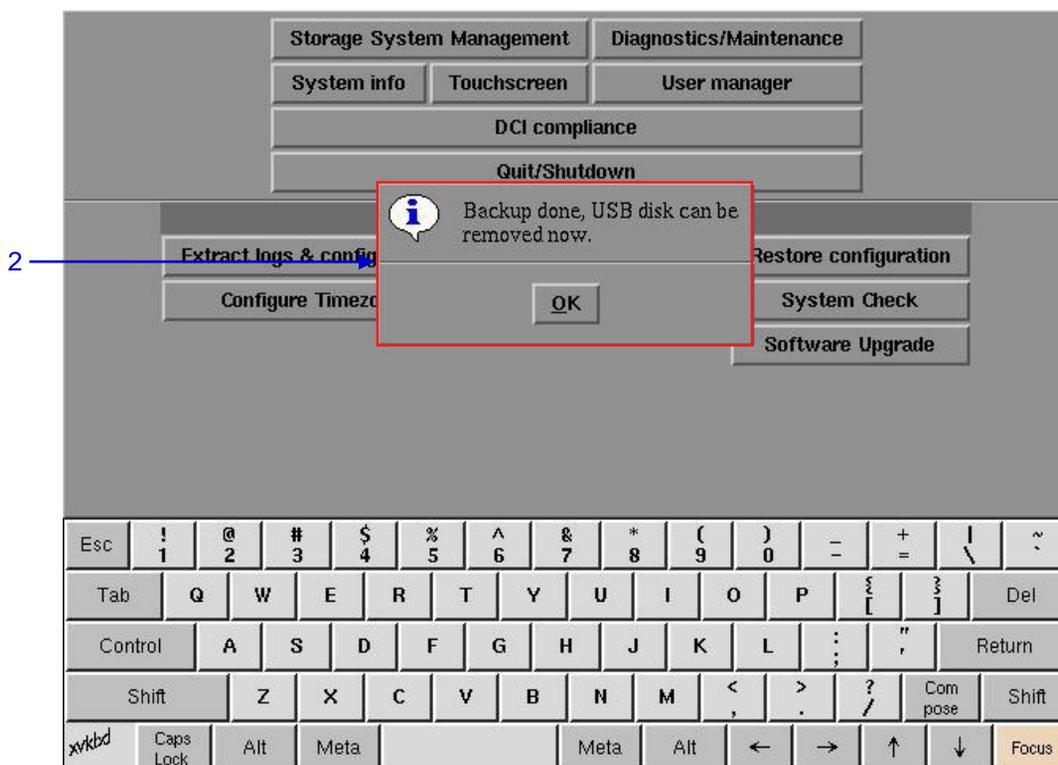

Figure 99 Saving IMB configuration
- 2** The backup file is saved in an encrypted format as seen in **Figure 99**. The following configuration files are included in the backup file: